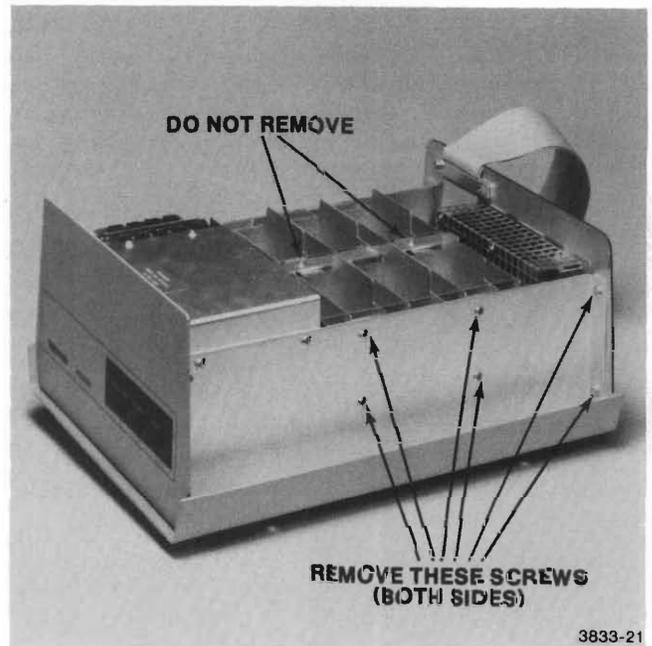

Figure 4-7. Access to the Control Board.
2. Remove the ROM Pack guides by removing four screws through each side of the chassis (Figure 4-7).
3. Remove the rear panel by removing the four screws which fasten it to the chassis (Figure 4-7).